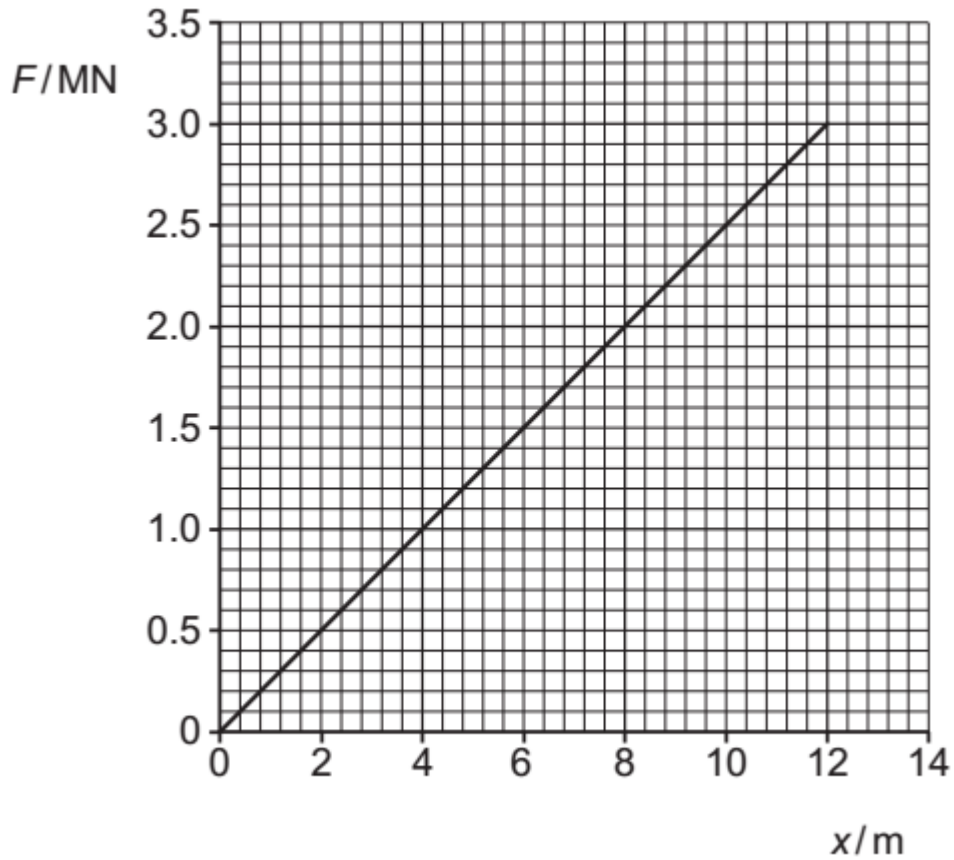

Fig. 4
This question is about a high-tensile steel cable used by a tugboat to tow large ships. **Fig. 4** shows the force F against extension x graph for the steel cable up to the breaking point.
- (b) (i) Use **Fig. 4** to show that the elastic potential energy stored by the cable at its breaking point is less than 20 MJ. [1]